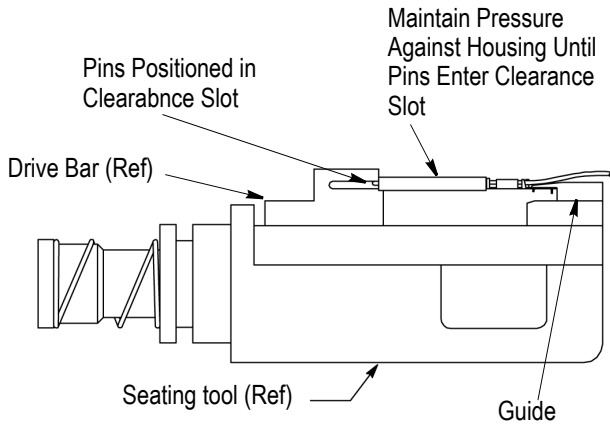

Figure 5
*When seating unshrouded pin connectors, it is necessary to maintain pressure against the contact housing until the pins enter the clearance slot. See Figure 5.*